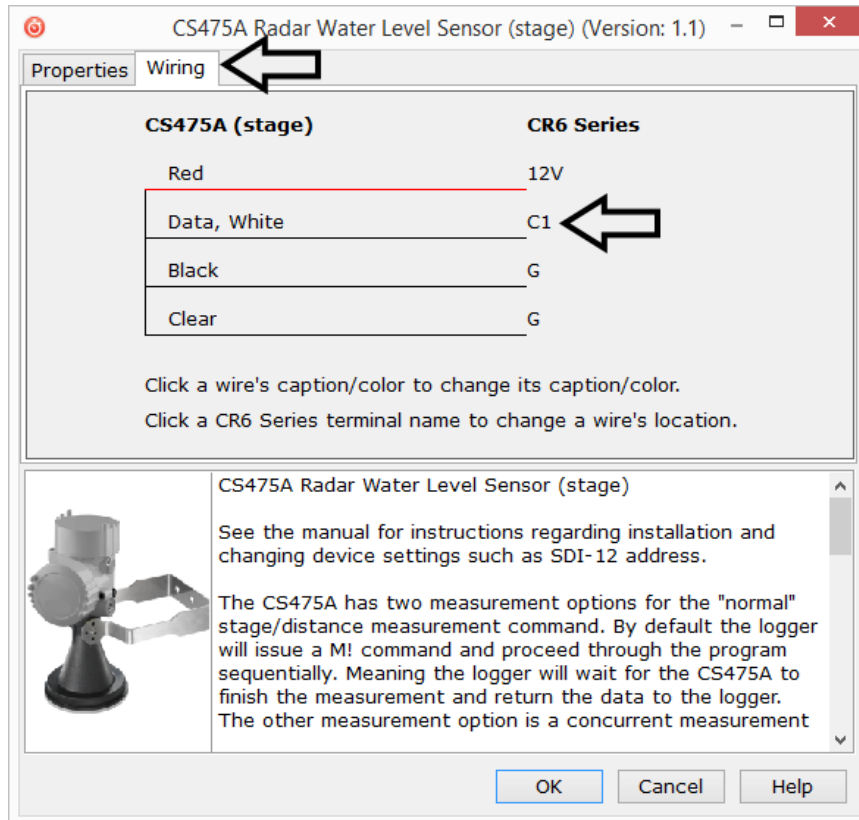

FIGURE 4-4. Short Cut, Change Wire Location
4. You can change a wire location by selecting the **Wiring** tab and clicking the control terminal (C) (FIGURE 4-4 (p. 4)).